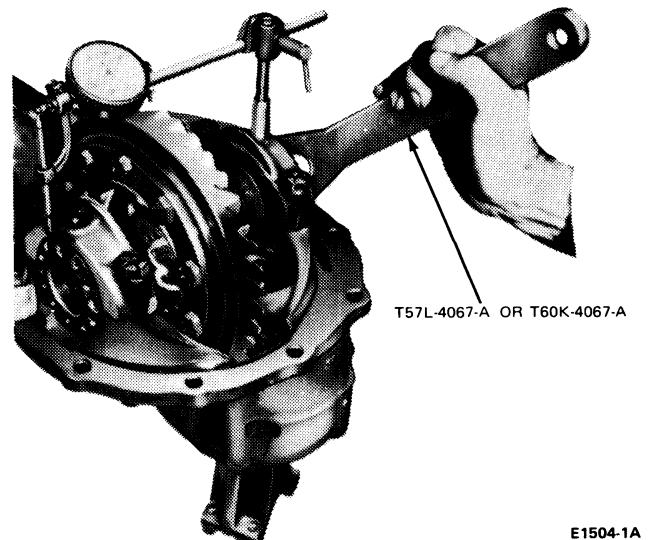

FIG. 44 Adjusting Side Bearing Preload
3. Install a dial indicator as shown in Fig. 44.